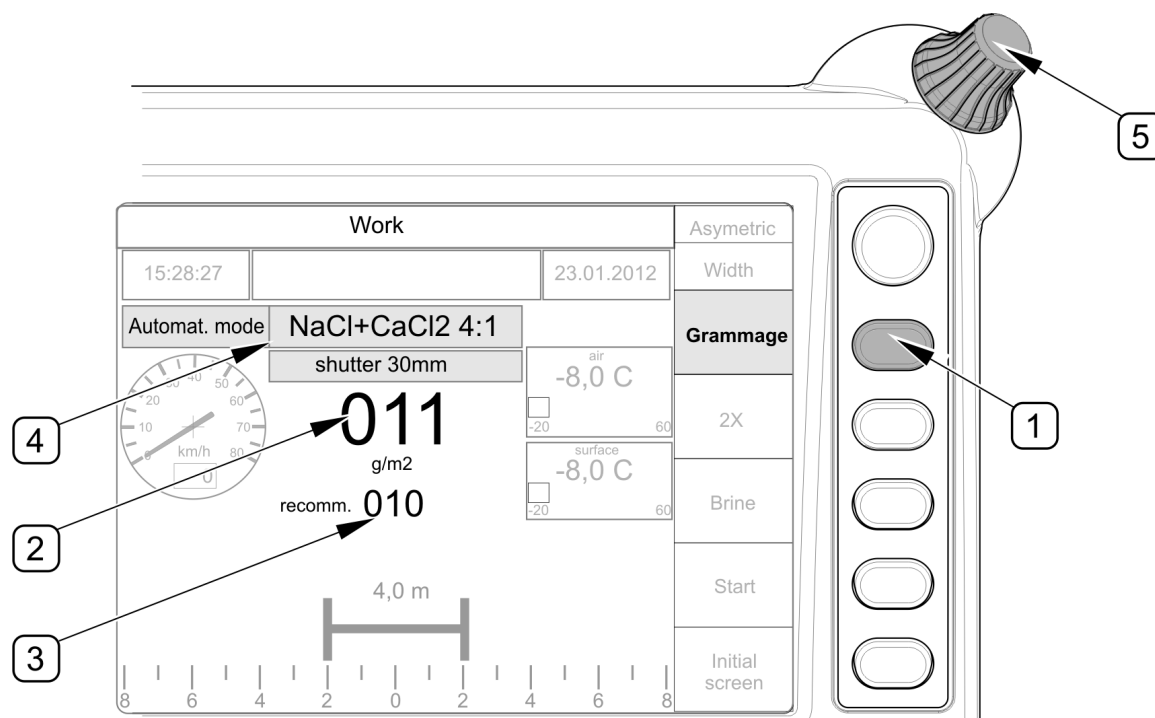

FIG. 4.34 Correction in automatic mode (option)
On control panel working page ("OPERATION") (FIG. 4.34), the operator can correct the dose for a defined automatic mode after selecting "SPREADING DENSITY" function by means of push-button (1). Correction is made by means of knob (5). Recommended density (3) for a defined mode T1, T2 or T3 is displayed below spreading density set by the operator (2) (FIG. 4.34)